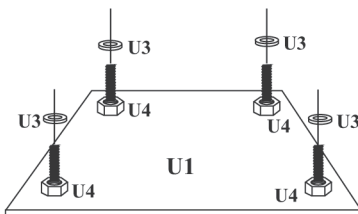

FIGURE 1A
- Slide a 18mm Thick Washer (U3) over each of the J-Bolts (U2) as shown in FIGURE 1A.